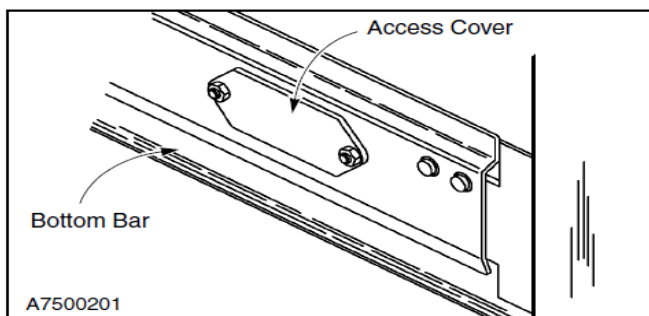

Figure 27
1. The reversing edge switch is located inside the bottom bar assembly. To inspect and/or adjust the switch, remove the access cover from the face of the bottom bar assembly. (See Figure 27.)